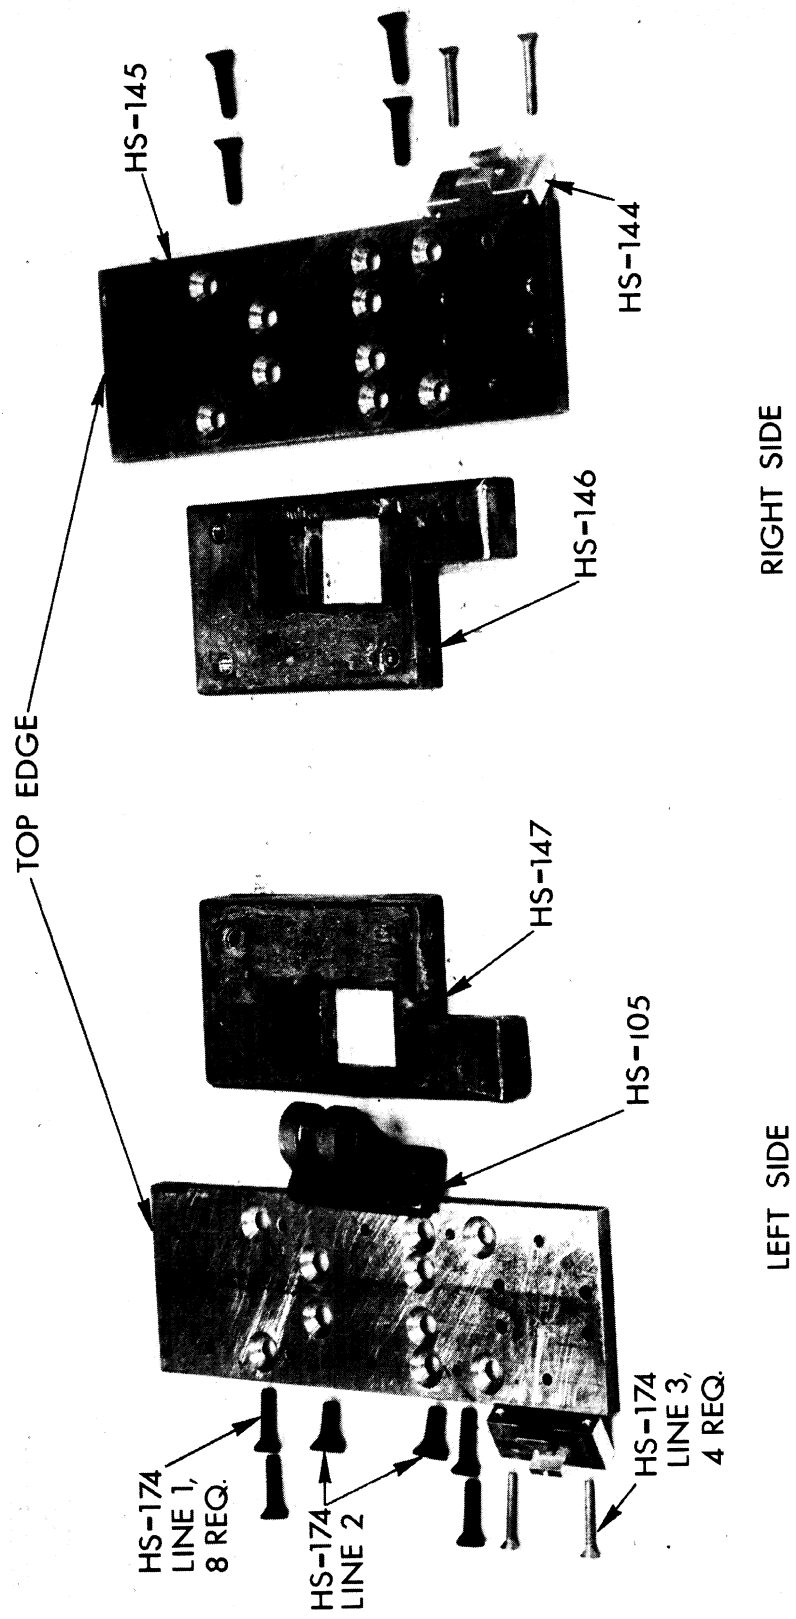

FIGURE 8
8.) Remove both rib bar sub-assemblies and unbolt the rib bar ballast, HS-146 (right), and HS-147 (left). Reference Figures 8 and 9.